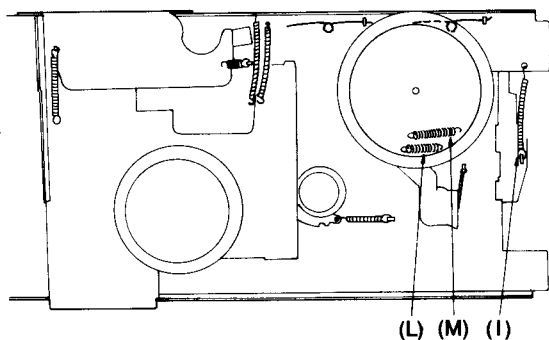

Fig. 3
Remove the spring (I). (See Fig. 3.)
Remove the spring (L). (See Fig. 3.)
Remove the spring (M). (See Fig. 3.)